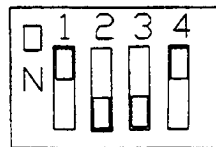

Figure 5-5
3. Locate the dip switches on the electronics board as shown on figure 5-5.